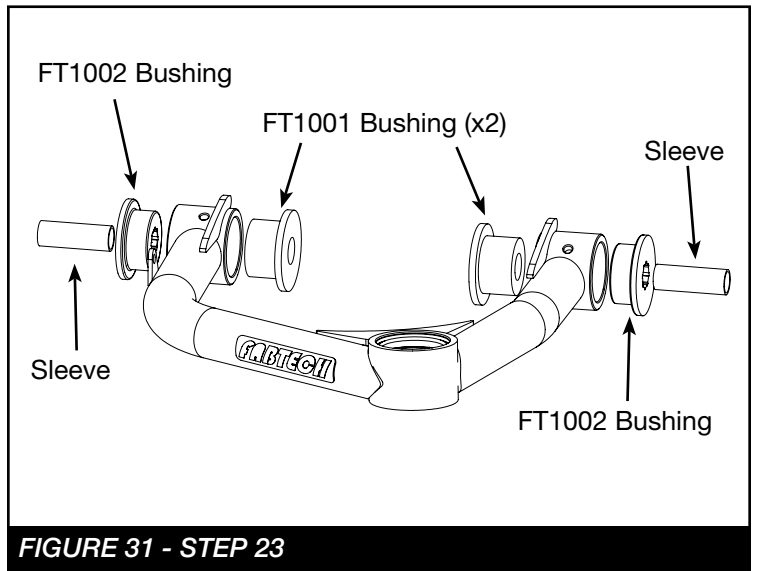

FIGURE 31 - STEP 23
23. Locate the new Fabtech control arms, install two FT1002 bushings, two FT1001 bushings, two FT84 grease zerks, and two sleeves from the FT90118 (Bushing kit). **SEE FIGURE 31**